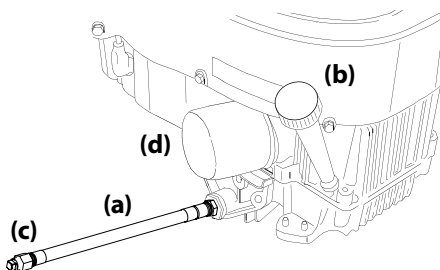

Figure 4-1
2. Locate the oil drain hose (a) on the right side of the engine. See Figure 4-1.
4. While holding the free end of the oil drain hose (a) over the oil collection container, unscrew the square head hose plug (c) from the end of the oil drain hose (a). See Figure 4-1. Drain the engine oil into the collection container.